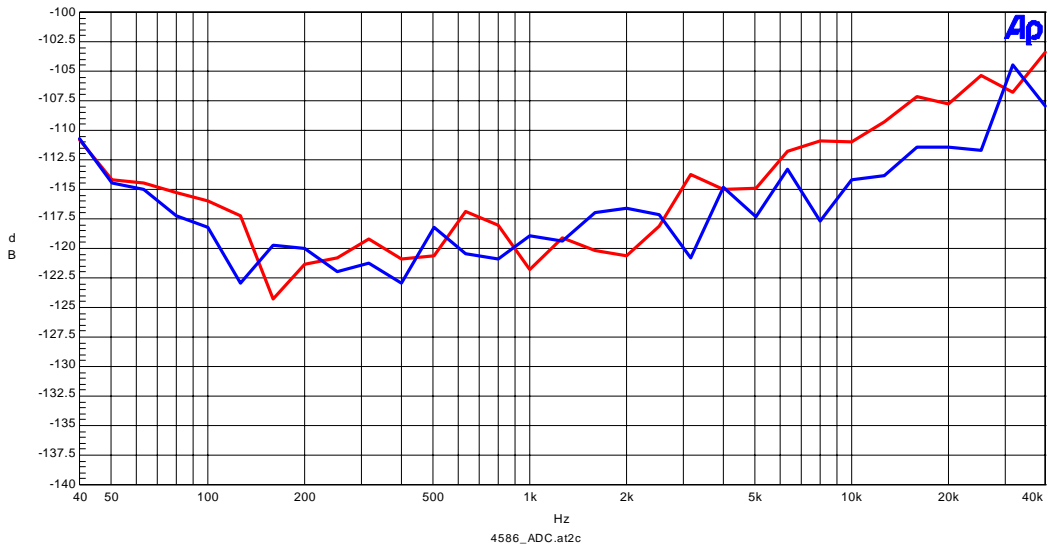

Figure 2-8. Crosstalk (Input Level=-0.5dBFS)
- Figure 2-8. Crosstalk (Input Level=-0.5dBFS)